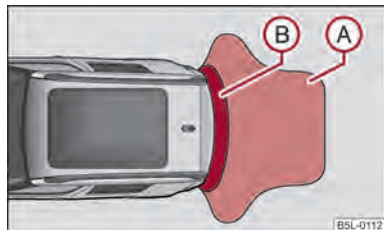
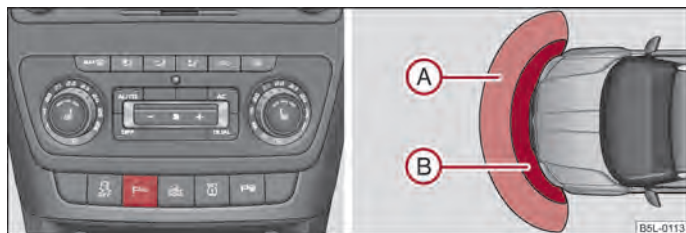

Fig. 99 Parking aid: Detection range of rear sensors
Fig. 100 Activating the parking aid/detection range of the front sensors
The clearance warning begins at a distance of about 160 cm from the obstacle (area **A** → fig. 99). The interval between the warning signals becomes shorter as the clearance is reduced.
The distance warning begins at a distance of about 120 cm from the obstacle in front of the vehicle (area A → fig. 100) and about 160 cm from the obstacle behind the vehicle (area B → fig. 99). The interval between the warning signals becomes shorter as the clearance is reduced.
The parking aid is activated when the **reverse gear** is engaged and the ignition is switched on or by pressing the button → fig. 100 - left, the symbol lights up in the button. The activation is confirmed by a brief acknowledgement signal.
The parking aid is deactivated after pressing the button → fig. 100 - left, or at a speed of more than 10 km/h - the symbol in the button is no longer illuminated. ▶
- If a warning signal sounds for about 3 seconds after activating the system and there is no obstacle close to your car, this indicates a system fault. The fault is confirmed additionally when the symbol  flashes in the button  → fig. 100 - left. Have the fault rectified by a specialist workshop.